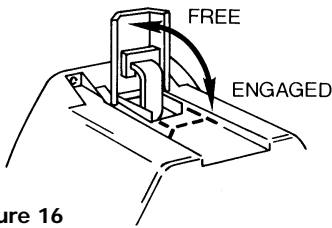

Figure 16
Lift the clutch lever to the "Free" position as shown in Figure 16. If there is a load on the wire rope, the clutch lever may not turn easily. **DO NOT FORCE THE CLUTCH LEVER.** Release tension on the wire rope by joggling out some of the wire rope. Releasing the clutch and pull out the wire rope and secure to anchor or load. Check that there are at least five (5) turns of wire rope left on the drum. Re-engage the drum by returning the clutch lever to the "Engaged" position (see Figure 16).